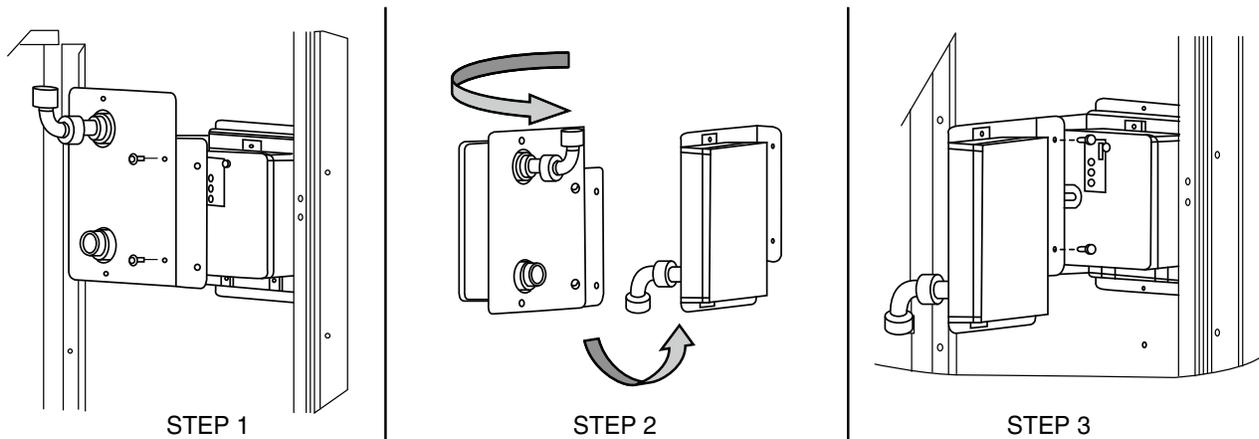

Fig. 45 — Completing Installation of Return Air Smoke Sensor
1. Unscrew the two screws holding the return-air smoke detector assembly. See Fig. 45, Step 1. Save the screws.
2. Turn the assembly 90 degrees and then rotate end to end. Make sure that the elbow fitting is pointing down. See Fig. 45, Step 2.
3. Screw the sensor and detector plate into its operating position using screws from Step 1. See Fig. 45, Step 3.